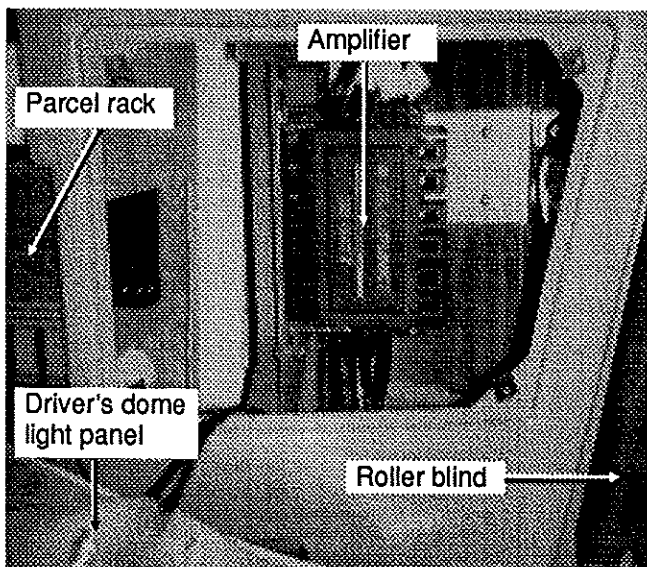

Fig. 3 - (View from under)
A 80 watt amplifier is provided for the sound system. It is located over the driver's compartment and on front of the left parcel rack (see fig. 3). Remove the amplifier as follows:
2. From the driver's compartment, locate the driver's dome light panel (see fig. 3).